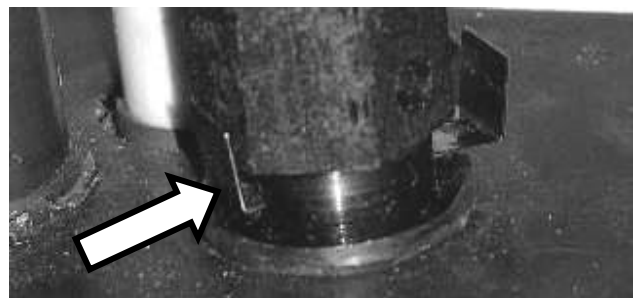

Figure 29 – Loosen Tower and Slide Pilot Gate to Rear of Pilot Tower (LP position)
2. Using the 7/16" wrench, grasp the pilot tower and turn counter-clockwise about 1/4 turn (see figure 29).